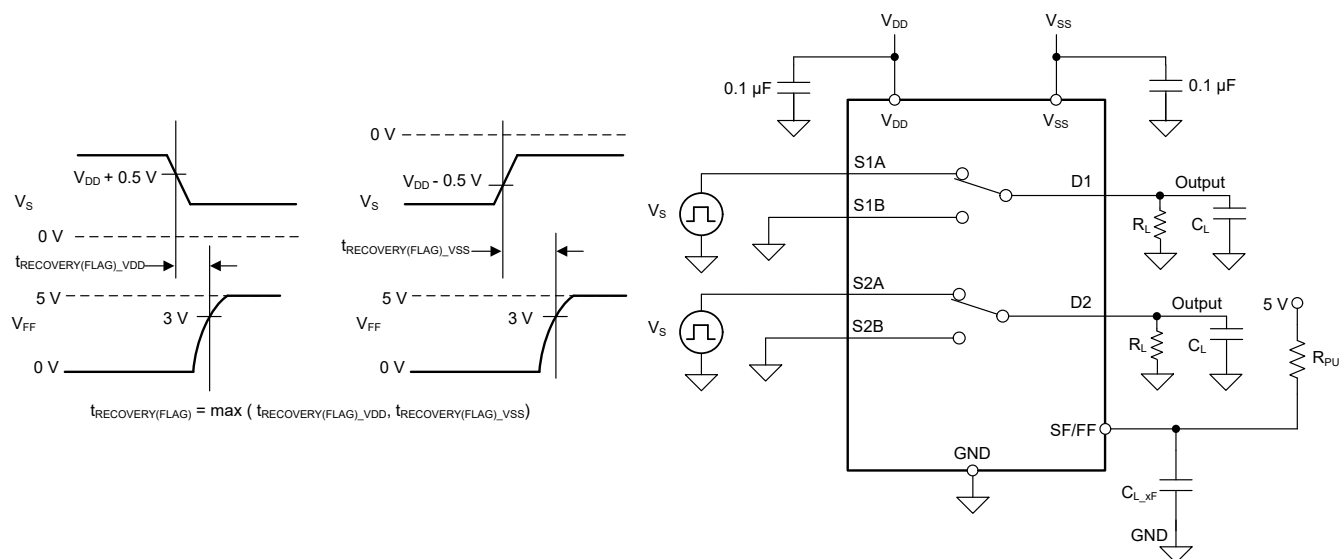

图 7-12. Fault Flag Recovery Time Measurement Setup
Fault flag recovery time ($t_{\text{RECOVERY(FLAG)}}$) measures the delay between the source voltage falling from overvoltage condition to below fault supply voltage (V_{DD} or V_{SS}) plus 0.5 V and the general fault flag (FF) pin to rise above 3 V with 5 V external pull-up. 图 7-12 shows the setup used to measure $t_{\text{RECOVERY(FLAG)}}$.